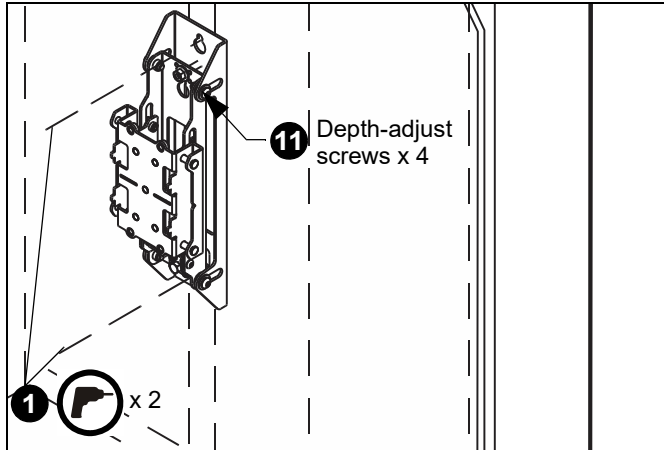

Figure 10
1. Drill one 1/2" x 1" hole at marked location on wall. (See Figure 10)
11. Adjust depth of wall uprights, if necessary, so that the face of the wall uprights are all in the same plane across the width of wall upright installation: (See Figure 10)